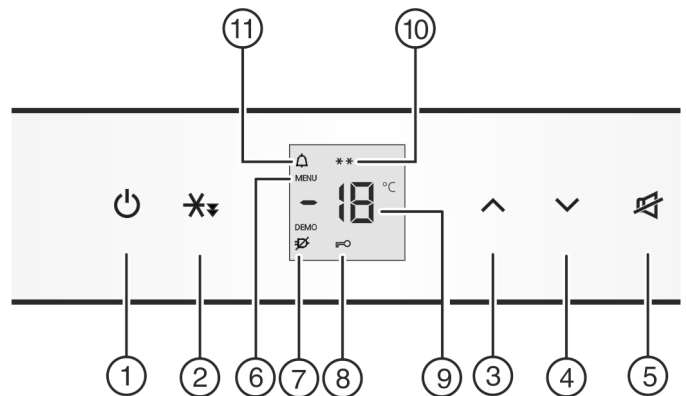

Fig. 2
- Press On/Off button Fig. 2 (1).
- ▶ To activate setting mode: Press and hold the Fast-Freeze button *Fig. 2 (2)* for approx. 5 s.
- ▷ The menu symbol *Fig. 2 (6)* shines.
- ▶ Press the Fast-Freeze button *Fig. 2 (2)* briefly to confirm.
- ▶ To switch on the child-proof lock, press the Fast-Freeze button *Fig. 2 (2)* briefly.
- ▷ The child lock symbol *Fig. 2 (8)* shines. **c** flashes in the display.
- ▶ To switch off the child-proof lock, press the Fast-Freeze button *Fig. 2 (2)* briefly.
- ▷ The child lock symbol *Fig. 2 (8)* goes out. **c** flashes in the display.
- ▶ To deactivate the set-up mode: press On/Off button *Fig. 2 (1)*.
- ▶ Press alarm button *Fig. 2 (5)*.
The temperature display and the alarm symbol *Fig. 2 (11)* flash at the same time.
The audible alarm is automatically silenced, the alarm symbol *Fig. 2 (11)* goes out and the temperature display stops flashing when the temperature is sufficiently cold again.
- ▶ To set the temperature higher: press Up button *Fig. 2 (3)*.
- ▶ To set the temperature lower: press Down button *Fig. 2 (4)*.